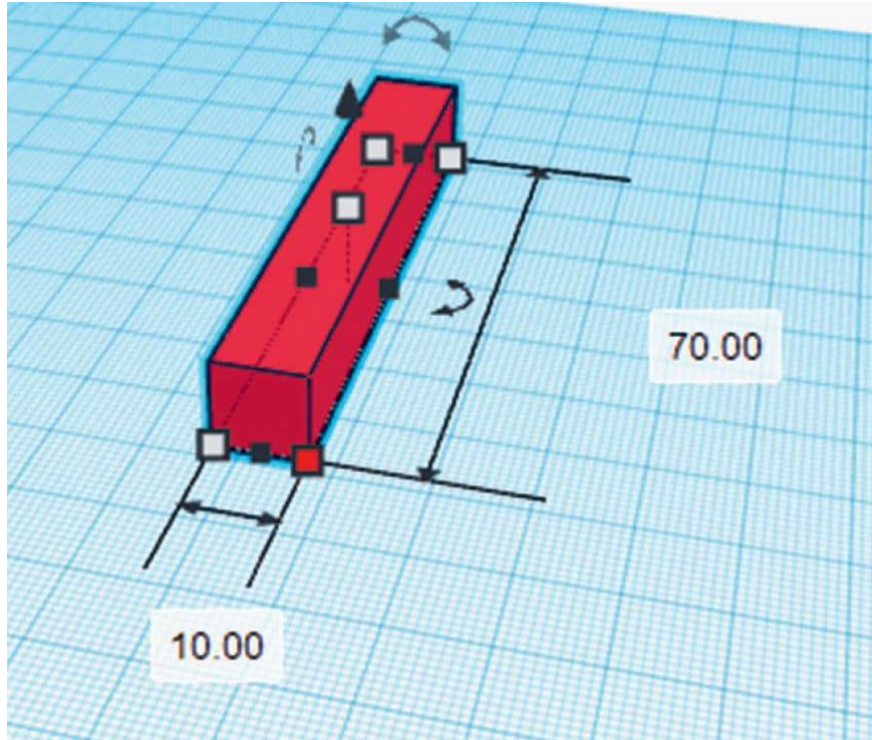

FIG. 1: Create the stem of the coat hook by sizing a cube.
1. Construct a stretched cube with a length of 70 mm and width and height of 10 mm each (fig 1). This is the stem of our J-shape.